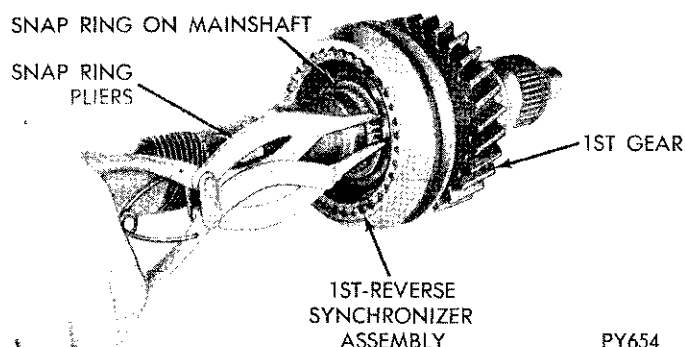

Fig. 21—Snap Ring—1st-Reverse Synchronizer Clutch Gear—Removal or Installation
(8) Remove from mainshaft the snap ring which retains the 1st-Reverse synchronizer clutch gear (Fig. 21).
(9) Slide 1st-Reverse synchronizer assembly off
(16) Install clutch gear snap ring on mainshaft (Fig. 21).